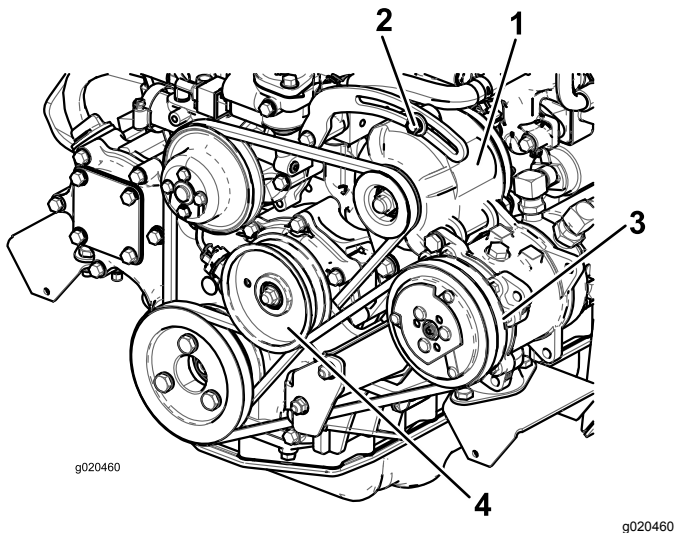

Figure 95
Check the condition and tension of the belt (Figure 95) after every 100 operating hours.
2. If the deflection is not 10 mm (3/8 inch), loosen the alternator mounting bolts (Figure 95). Increase or decrease the alternator belt tension and tighten the bolts. Check the deflection of the belt again to ensure that the tension is correct.
2. If the deflection is not 10 mm (3/8 inch), loosen the idler pulley mounting bolt (Figure 95). Increase or decrease the compressor belt tension and tighten the bolt. Check the deflection of the belt again to ensure that the tension is correct.